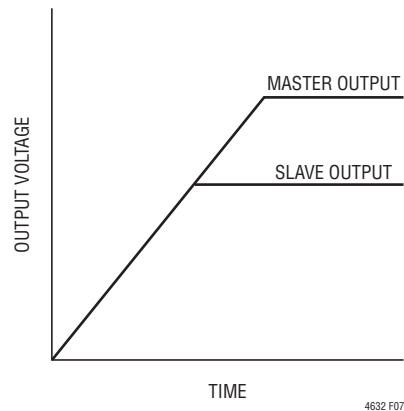

Figure 7. Output Coincident Tracking Waveform
The Coincident output tracking can be recognized as a special Ratiometric output tracking which the master’s output slew rate (MR) is the same as the slave’s output slew rate (SR), as waveform shown in Figure 7.